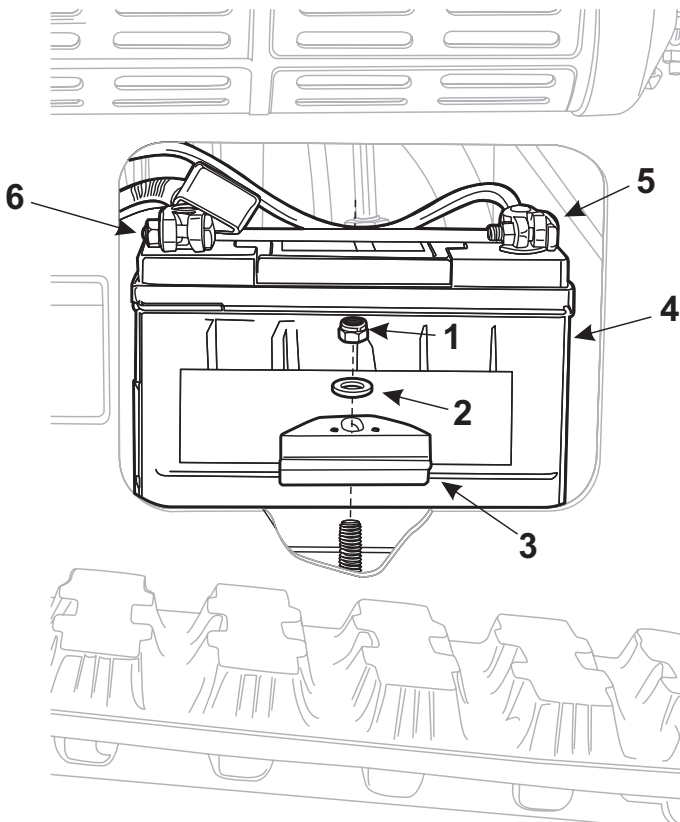

Figure 4-17 Battery and Cable Connections
2. Check the battery (Item 4, Figure 4-17) and cable connections (Items 5 and 6, Figure 4-17) for signs of leaking, corrosion or damage.
Make sure that the battery clamp (Item 3, Figure 4-17) is securely holding the battery in position. If needed, tighten the lock nut (Item 1, Figure 4-17) to secure the battery.
If the lock nut has fallen off, make sure to replace the lock nut (Item 1, Figure 4-17) and the lock washer (Item 2, Figure 4-17).